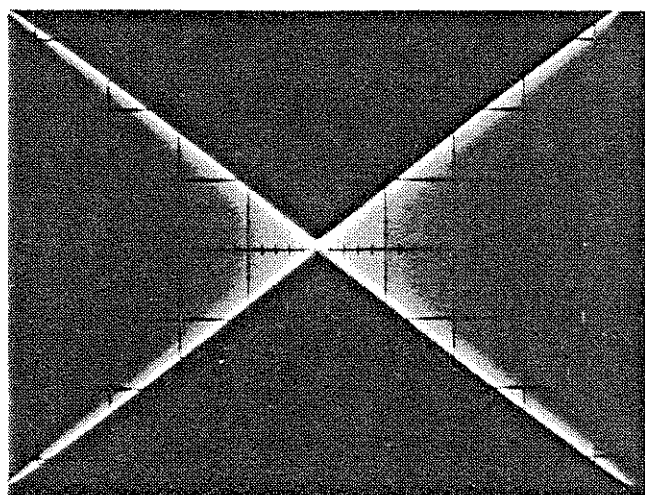

Fig. 4-17 Line mode display
- b. CHECK that the Monitor display looks like Figure 4-17.